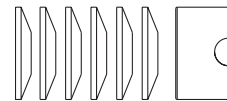

Figure 11B
- ❑ 1. Locate the 1/16" Allen Wrench (125) supplied with the kit. Place the Diff Nut (27), "T" side first, over the Allen Wrench towards the "L-end."
- ❑ 2. Stack the six 1/8" Belleville Washers (154) over the Wrench and up against the Diff Nut. The Washers should all point the same direction and open away from the Diff Nut as shown in Figure 11B.